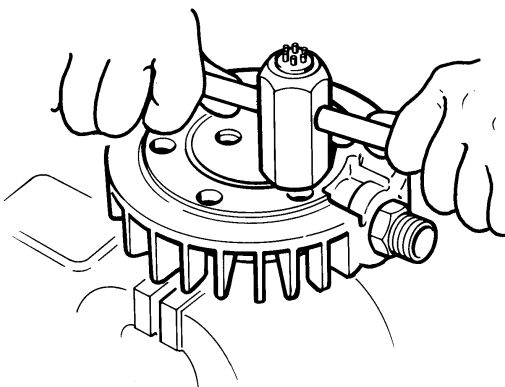

Fig. 16 Removing the intake valve
- Unscrew the intake valve body with the special tool (part no. 4555–645, part of the tools set delivered with the unit) (Fig. 16).